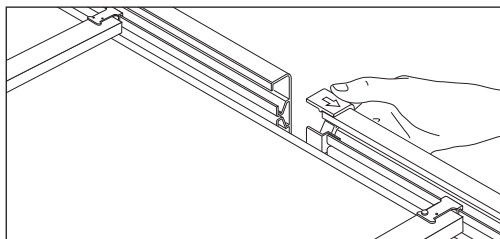

Fig 4 Observe direction of fall
- 9 When joining two lengths of section, slide purpose made union over fixed lower section and insert upper section into it before nailing down. Observe direction of fall indicated by arrow on top flange of union, as incorrect fitting will cause a leak (Fig 4).